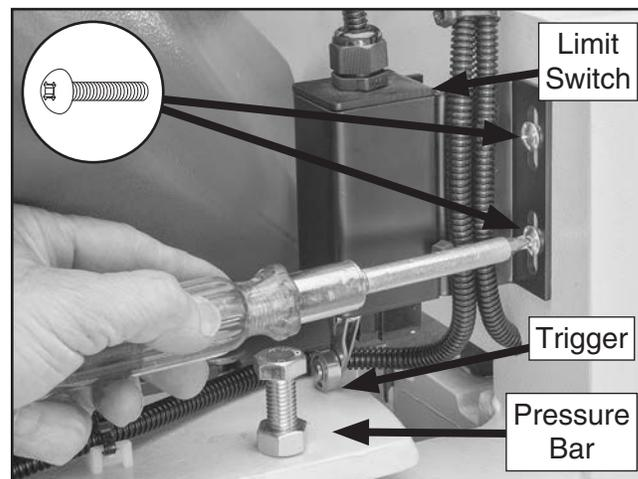

Figure 19. Attaching pressure bar limit switch.
2. Attach pressure-bar limit switch to rear of machine with (2) M6-1 x 10 Phillips head screws, as shown in **Figure 19**. Adjust limit switch so trigger just touches pressure bar when fully extended (see **Figure 19**).